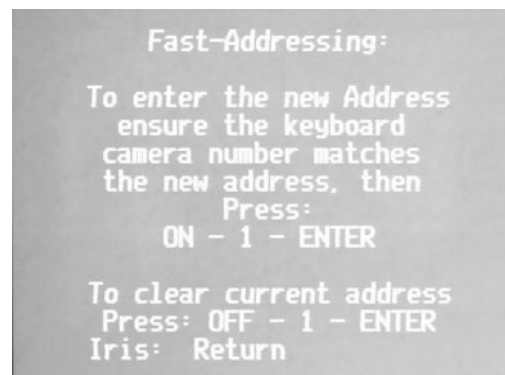

Figure FA3
4. Press **ON-636-ENTER**. The screen shown in FIGURE FA3 is displayed. At this point, Camera ID 26636 will be the only camera in the *Fast Addressing* mode.